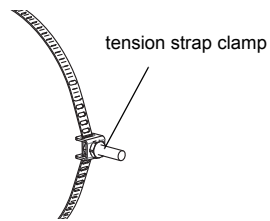
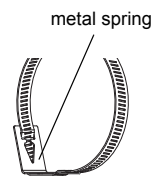

Fig. 8.10: Tension strap with tension strap clamp
Fig. 8.11: Tension strap with metal spring
- Insert the tension strap into the tension strap clamp (see Fig. 8.10).
- Insert the tension strap into the tension strap clamp and the metal spring (see Fig. 8.10 and Fig. 8.11).